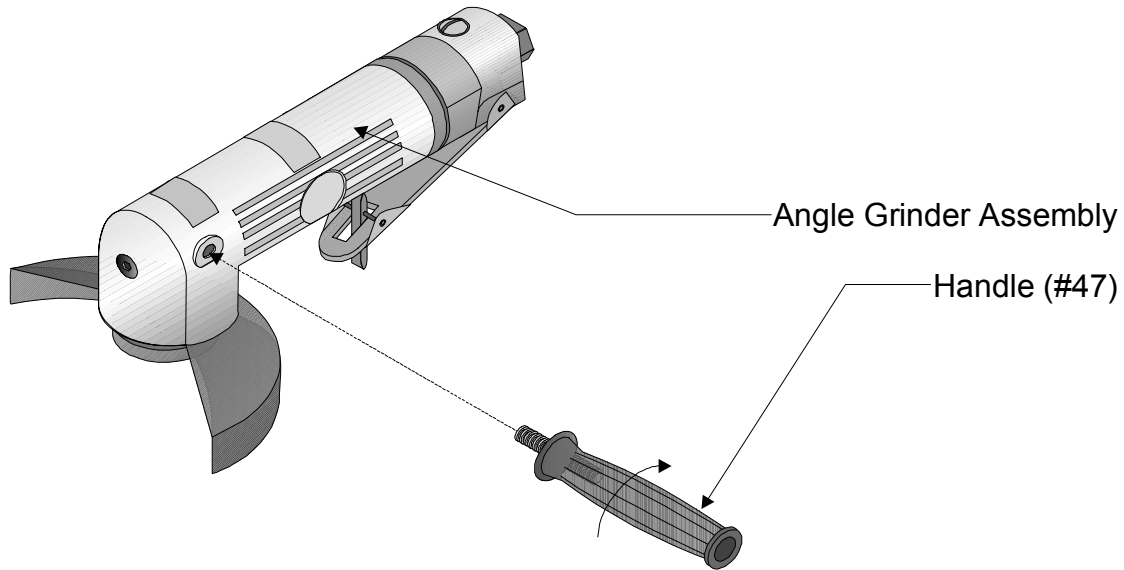

Figure 1 — Handle Assembly
Step 1: Thread the HANDLE (#47) into the side of the Angle Grinder as shown in Figure 1. Tighten.